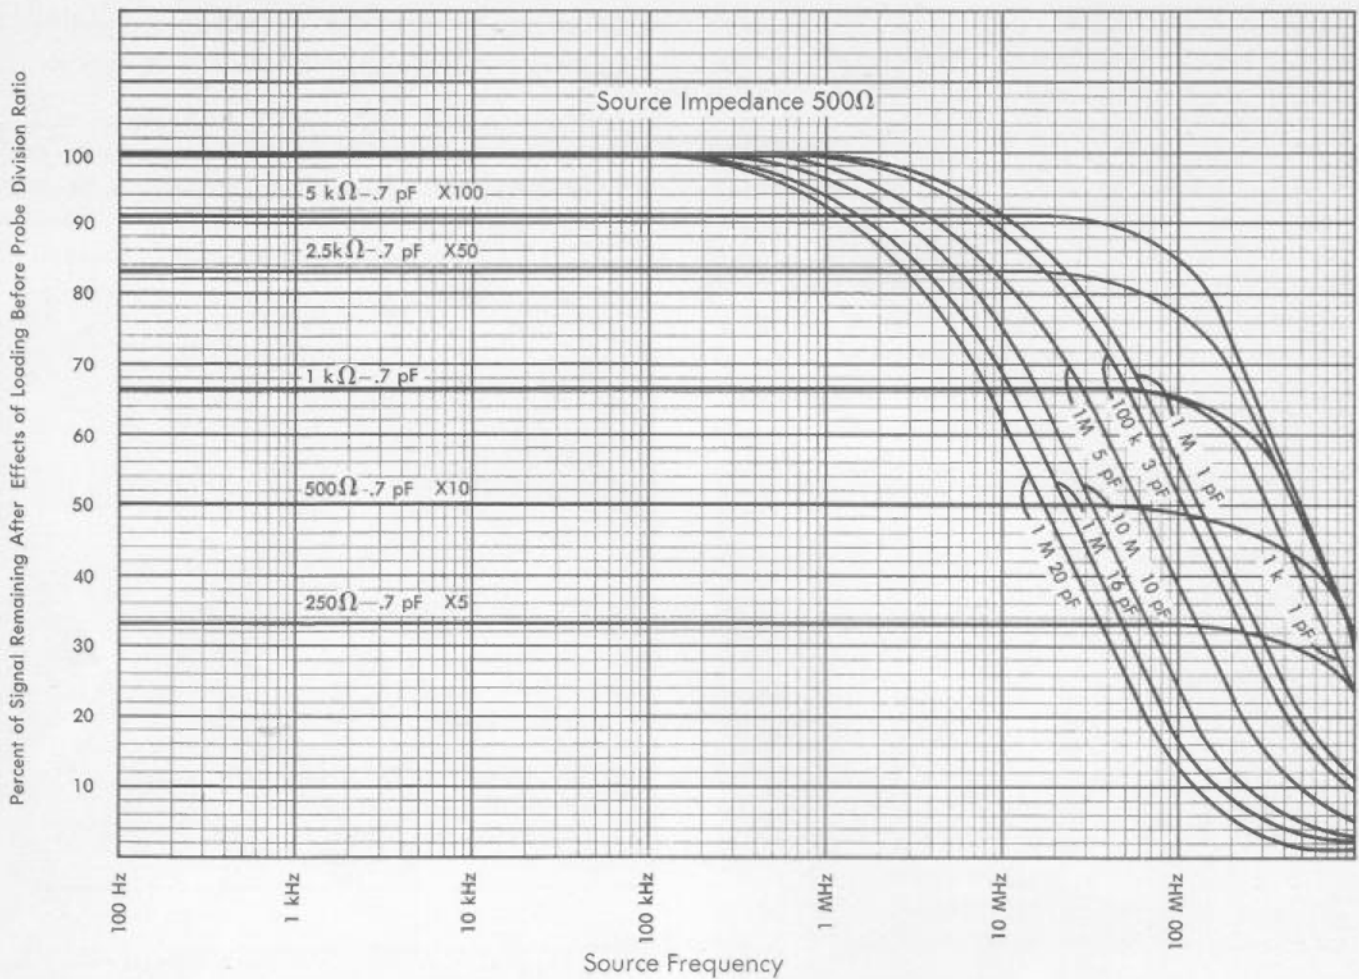

Figure 7. Probe Loading Effects for Source Impedance of 500 ohms.
Figures 7 and 8 use the above equations to plot percent of signal remaining versus frequency for source impedances of 500 and 5000 ohms and are useful for making quick evaluations of CW amplitude errors caused by the loading of various commonly used probes. The break in these curves occurs at frequencies where capacitive loading first becomes significant. While these curves do show source loading they do not indicate the constant signal attenuation resulting from the probe division ratio.
An example of how the curves in figures 7 and 8 may be effectively used follows:
Assume that a selection between two probes must be made for a CW amplitude measurement from a 500 ohm source. Probe 1 is 10 megohm, 10 pF, 10:1 division ratio; Probe 2 is 500 ohms, 0.7 pF, 10:1 division ratio. The problem is to determine which probe to use for a 50 MHz CW amplitude measurement. Figure 7 shows that for source frequencies above approximately 33 MHz, Probe 2 (500Ω/0.7pF) causes less source loading than Probe 1 and therefore provides a more accurate measurement solution. Conversely, for frequencies below 33 MHz, Probe 1 (10 MΩ/10 pF) creates less loading. The input impedance of Probe 2 is lower than Probe 1 at dc, is higher than Probe 1 for frequencies above 33 MHz, and relatively constant over a broad frequency range. The relatively high input capacitance of Probe 1 causes its input impedance to rapidly decrease with increasing source frequency.
2. Input impedance is high at dc, but due to high input capacitance (see figure 7), falls off rapidly with increasing frequency.
7. Source loading is relatively high at dc but remains constant over a broad frequency range, thus loading is easy to predict (see figure 7).
Note from figure 7 that the 500 ohm/0.7 pF Probe 4 has significant resistive loading but the impedance remains a constant 500 ohms from dc to approximately 100 MHz. Although the dc resistive loading is high with this probe, it is easy to allow for by simply doubling the voltage reading for all frequencies to 100 MHz with the 500-ohm source.